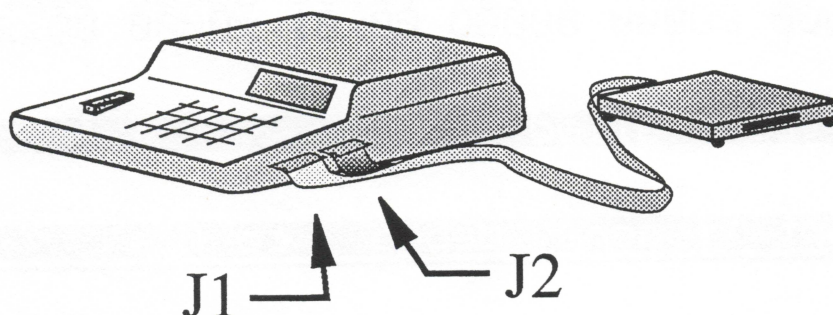

Figure 1
- The Interface Buffer is completely disconnected from the 900 mainframe (see warning described in figure 1).